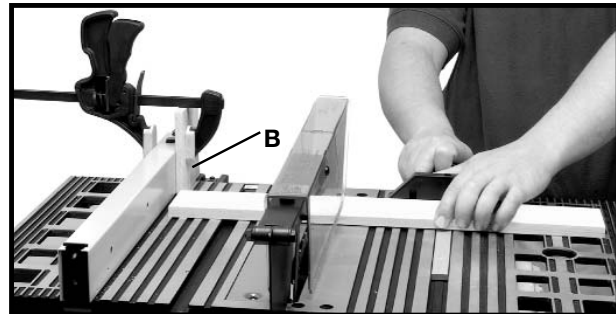

Fig. 42B
When cross-cutting a number of pieces to the same length, a block of wood (B) Fig. 42B can be clamped to the fence and used as a cut-off gage as shown in Fig. 42B. It is important that this block of wood always be positioned in front of the saw blade as shown. Once the cut-off length is determined, secure the fence and use the miter gage to feed the work into the cut. This block of wood allows the cut-off piece to move freely along the table surface without binding between the fence and the saw blade, thereby lessening the possibility of kickback and injury to the operator.
**⚠ CAUTION: WHEN USING THE BLOCK (B) FIG. 42B, AS A CUT-OFF GAGE, IT IS VERY IMPORTANT THAT THE REAR END OF THE WORK PIECE IS CLEAR OF THE BLOCK BEFORE IT CONTACTS THE BLADE.**